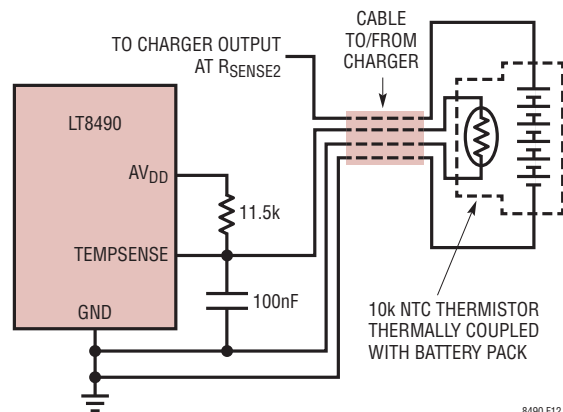

Figure 12. Battery Temperature Sensing Circuit
The LT8490 can measure the battery temperature using an NTC (negative temperature coefficient) thermistor thermally coupled to the battery pack. The temperature monitoring function is enabled by connecting a 10k Ω , $\beta = 3380$ NTC thermistor from the TEMPSENSE pin to ground and an 11.5k Ω resistor from AV_{DD} to TEMPSENSE (as shown in Figure 12). If battery temperature monitoring is not required, then use a 10k Ω resistor in place of the thermistor. This will indicate to the LT8490 that the battery is always at 25°C.
3. **BATTERY DISCONNECT SENSING:** The LT8490 detects if the battery and thermistor have been disconnected from the charger by monitoring the TEMPSENSE pin voltage. When the connection to the battery is severed, as shown by the arrow in Figure 12, the connection to the thermistor is also severed and the TEMPSENSE voltage rises up to AV_{DD} through the 11.5k Ω resistor. During the time when the battery is not present, the LT8490 halts charging. The charger automatically restarts the charging at Stage 0 when a battery (along with integrated thermistor or resistor) is sensed through the TEMPSENSE pin.